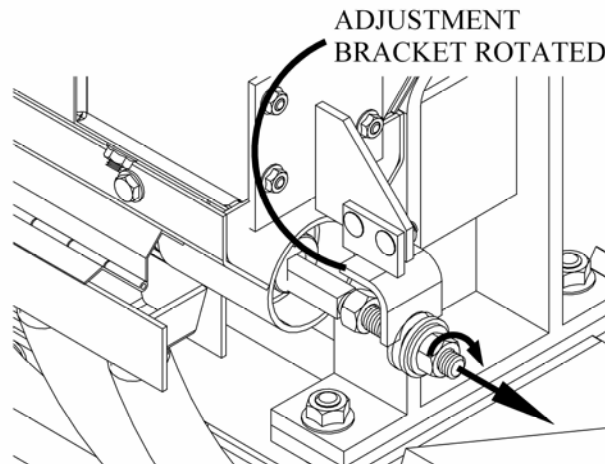

Figure 12b. Extraction Position
- rotate bracket in order to extract shaft further (Figure 12b)